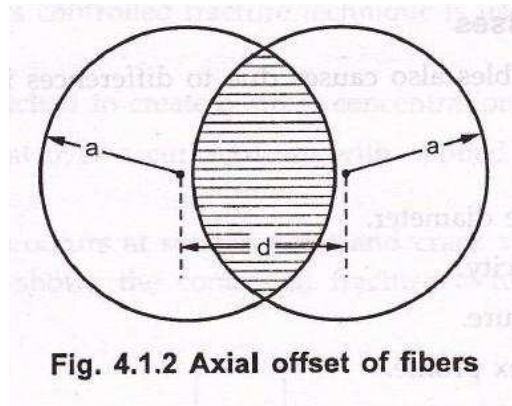

Fig. 4.1.2 Axial offset of fibers
- x The axial or lateral misalignment is most common in practice causing considerable power loss. The axial offset reduces the common core area of two fiber end faces as shown in Fig. 4.1.2.